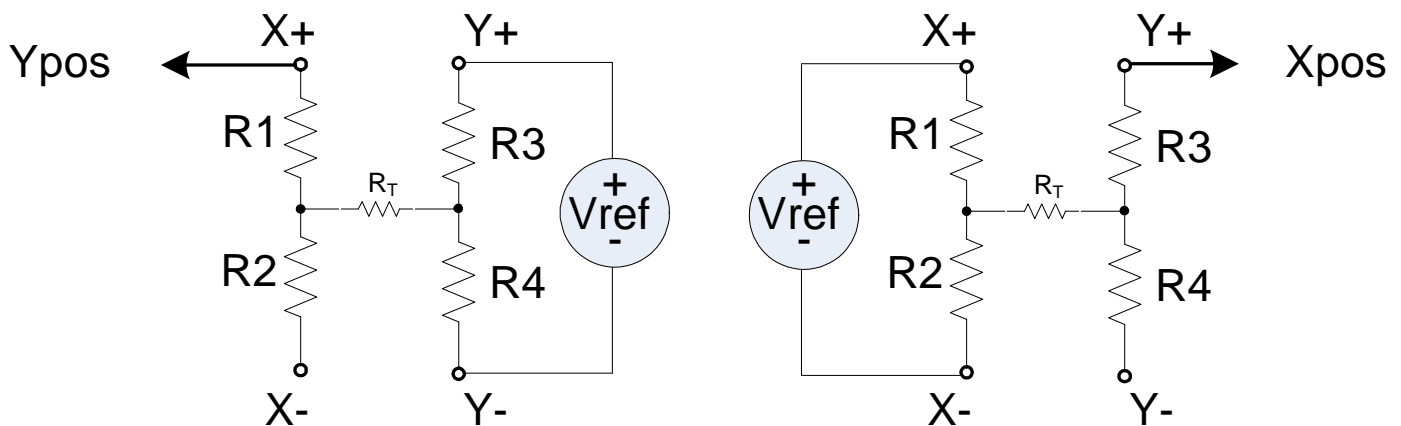

Figure 20. Ordinate (Y) and abscissa (X) coordinates measurement setup
The X coordinate is measured in a similar fashion with the bottom resistive sheet (X) biased to create a voltage divider by R1 and R2, while the voltage on the top sheet is measured through R3. Figure 20 shows the coordinates measurement setup. The resistance  $R_T$  is the resistance obtained when a pressure is applied on the screen.  $R_T$  is created by the contact area of the X and Y resistive sheet and varies with the applied pressure.